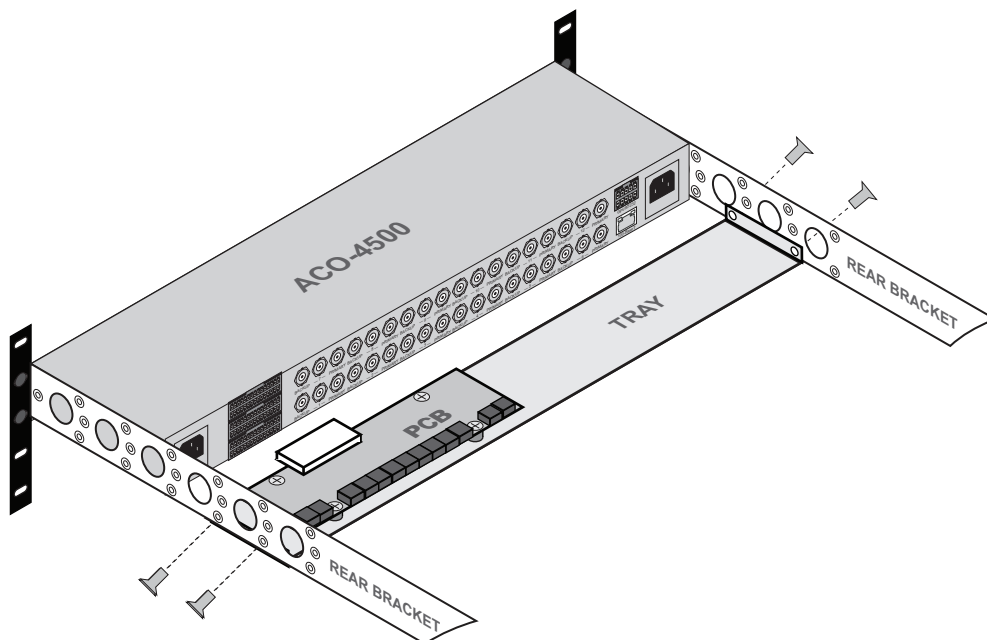

Figure 4.5 Installing the Breakout PCB and Tray to the Rear Brackets.
1. Position the Breakout PCB and Tray behind the ACO-4500 in the rack frame (**Figure 4.5**) while ensuring to:
2. Use the 4 provided M3 5mm screws to affix the Breakout PCB and Tray to the Rear Brackets of the ACO-4500. Refer to **Figure 4.5**.